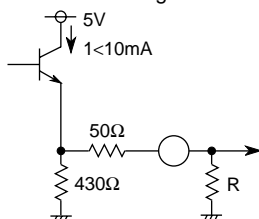

Fig.2
5. The terminal of R,G,B output pin (Pin 25, 28, 31). It is possible to add a pull-up resistor according as drive ability. but set the value of resistor in order that the current is under 10mA. Setting the value of R is more than 500 Ω as shown in Fig.2.